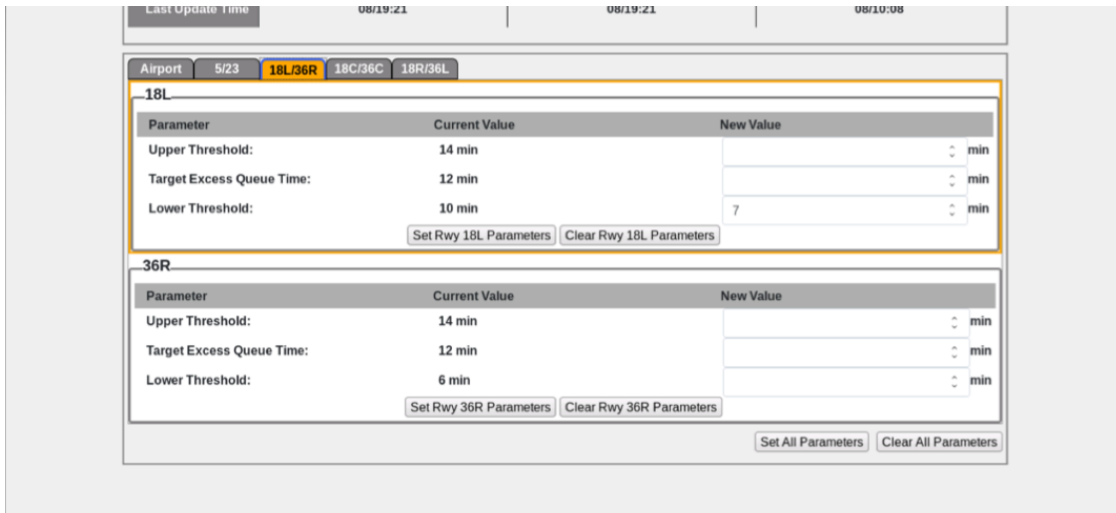

Figure 9. Setting TEQT and Threshold values for Runway 18L/36R.
Step 1: Use the up and down arrows in the text box under the ‘New Value’ column to enter a new upper or lower threshold or target excess queue time value, or click in the text box and manually type in a new value. The selected ‘New Value’ for upper or lower threshold or target excess queue time will appear at the right side of the window, as seen in Figure 9, until the parameter has been Set.